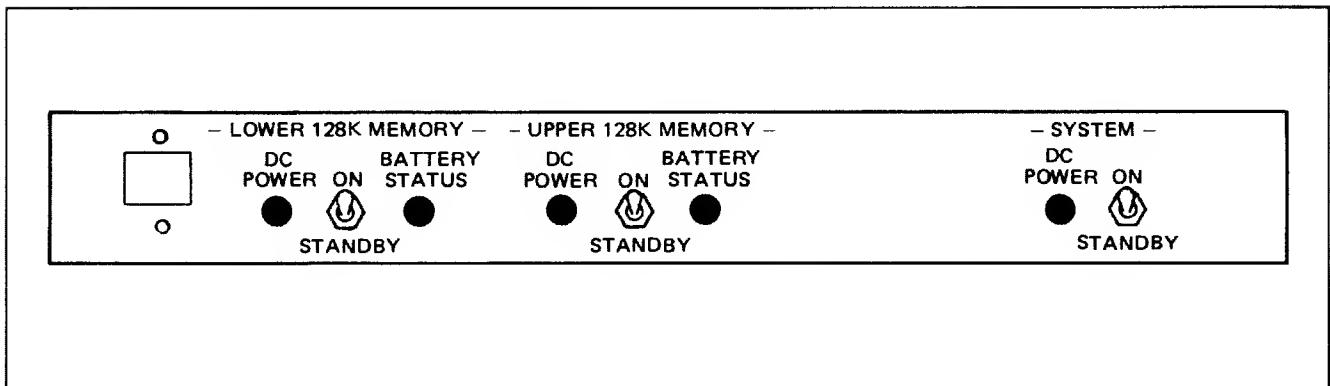

Figure 4-1. DC Control Panel
4. Behind the front door of the CPU Bay, set toggle switches ON in this order (see figure 4-1):